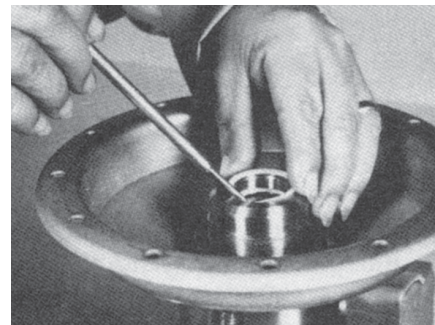
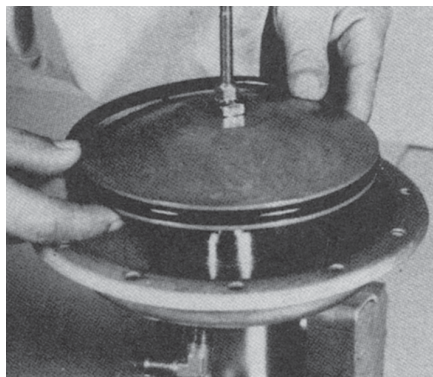

Figure 7-5 Installing seals in fluid body.
Figure 7-6 Inserting air piston and fluid piston assembly into fluid body.
7.7 Install new seals in sealing groove in the bore of the fluid body (21), (see Figure 7-5) in the following sequence relative to pump ratio:
- 10:1, 20:1 and 30:1 pumps: packing retainer (18)- bottom, o-ring (17)-middle, and packing retainer (18)-top;
- 35:1 thru 300:1 pumps: back-up ring (18A) on top, o-ring (17) in middle, and packing retainer (18) on bottom of sealing groove. For o-ring replacement of JB models, see page 15.
- 7.8 Carefully insert assembled fluid piston (16 or 27) and air piston (14) assembly into bore of fluid body to avoid scratching surfaces. See Figure 7-6. **Note:** Before assembly, lubricate bore and seals of fluid body and fluid piston.